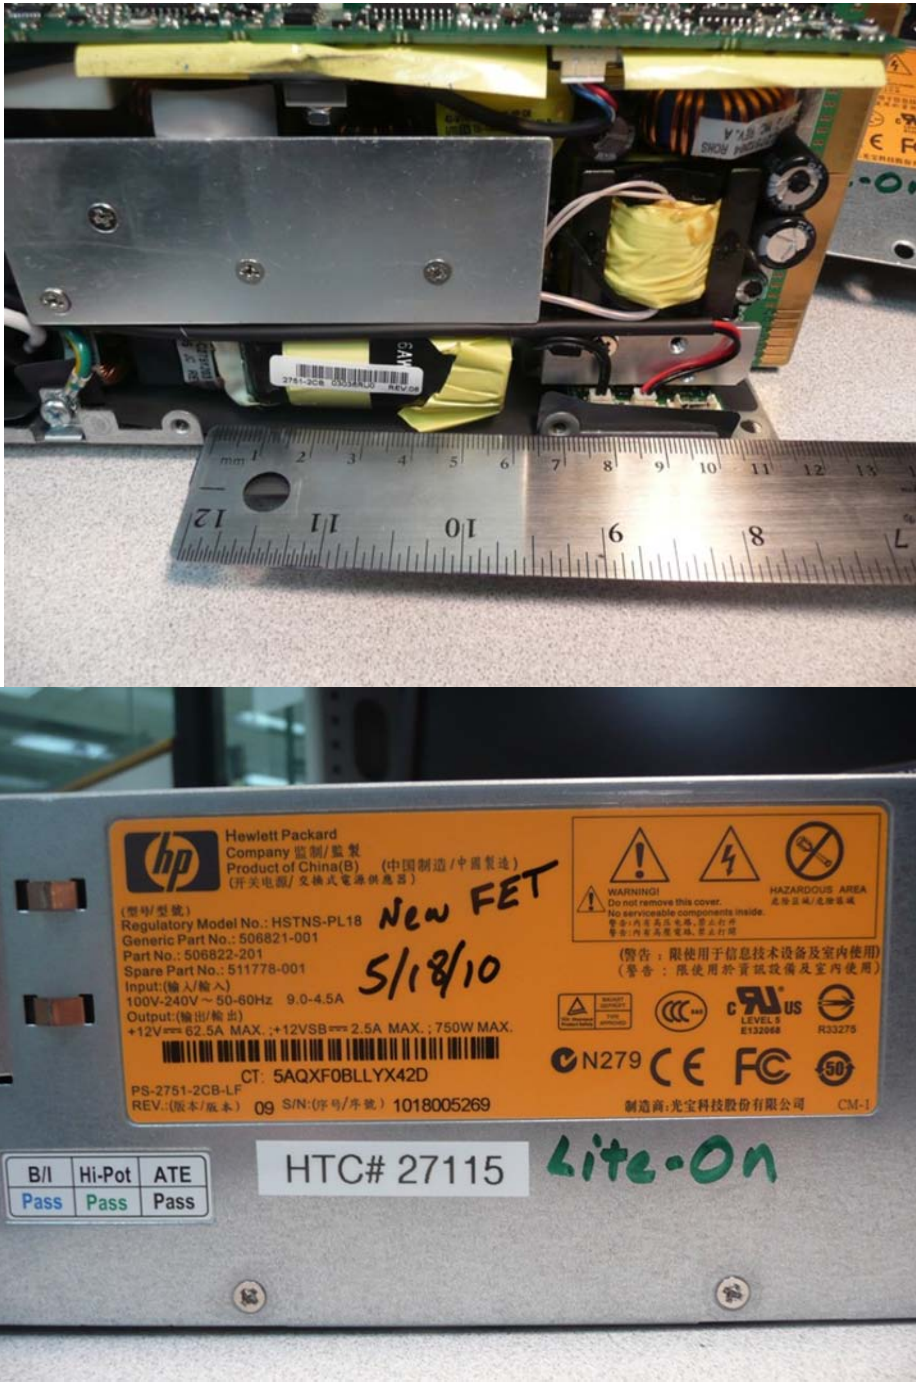

FIGURE 12
- Locate CAP greater than 2.5cm (See Figure 12)
- Note: There are two different vendor power supplies Figure 12 will show location of capacitor for both vendors